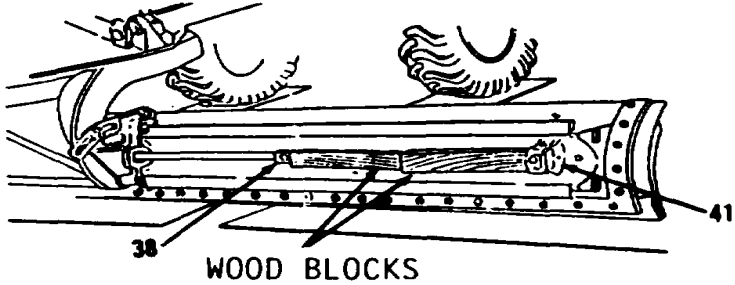

Figure 10-140.
3. Retract rod end of cylinder (38, Figure 10-140).
4. Position wood blocks between rod end of cylinder (38) and bracket (41).